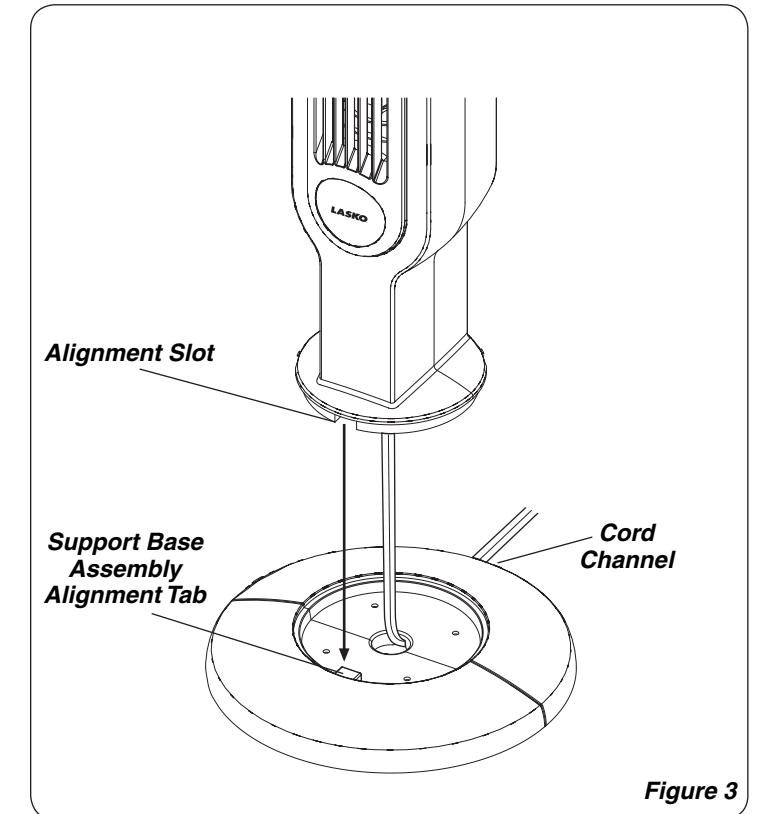

Figure 3
- Align the **Support Base Assembly Alignment Tabs** with the alignment slots on the bottom of the fan, noting that the **cord channel** on the bottom of the support base should be towards the back of the Fan. (**Figure 3**)